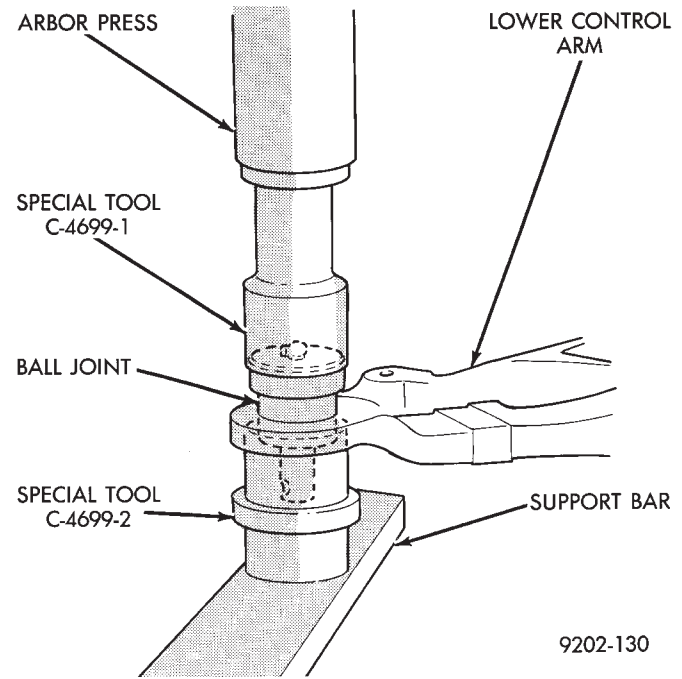

Fig. 3 Installing Ball Joint
- (1) By hand, position ball joint assembly into the ball joint bore of the lower control arm. Be sure the ball joint assembly is not cocked in the bore of the control arm, this will cause binding of the ball assembly.
- (2) Position assembly in press with Installer Tool C-4699-2 supporting control arm (Fig. 3).
- (3) Install the Remover/Installer, Special Tool C-4699-1 over the ball joint stud and down on the lower control arm assembly (Fig. 3).
- (4) Carefully align all pieces. Using an arbor press apply pressure against the ball joint assembly, until ball joint is fully seated against bottom surface of control arm. Do not apply excessive pressure against the control arm.